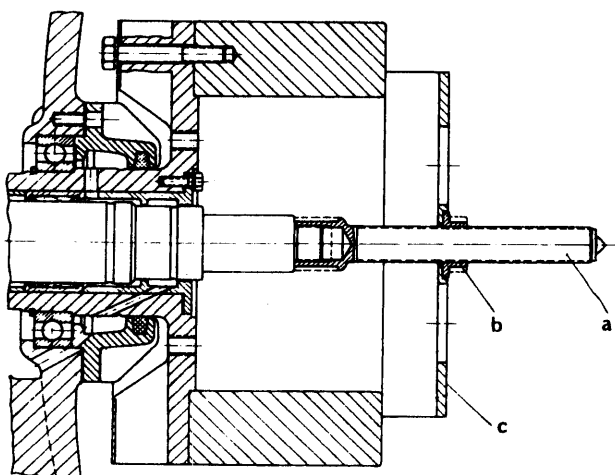

Fig. 8/7b
- 2) Use puller 423 to install clutch drum assembly 1a-t (fig. 15/2) in the following manner (see fig. 8/7b):
- b) Attach pulling device a-c as illustrated in fig. 8/7b (nut b being in front of the pulling device) and screw threaded spindle a onto the worm wheel shaft.